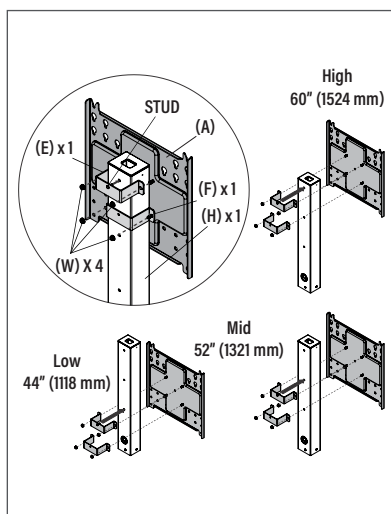

Figure 3
Install the face plate assembly (A) to the upper column (H) in one of three positions using one connector - stud (E), one connector - no stud (F), and four 5/16-18 flange nuts (W). (See Figure 3)